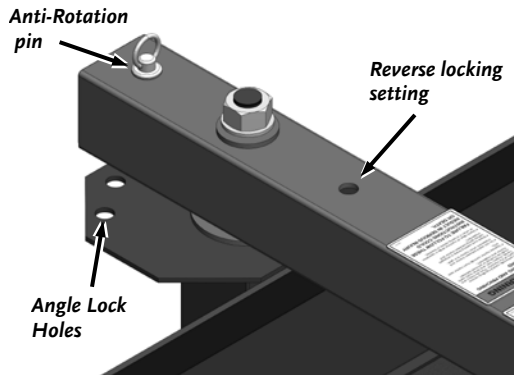

Figure 14
1. Remove the Wire Hair Pin that secures the Anti-Rotation Pin and remove the Anti Rotation Pin (**Figure 14**).